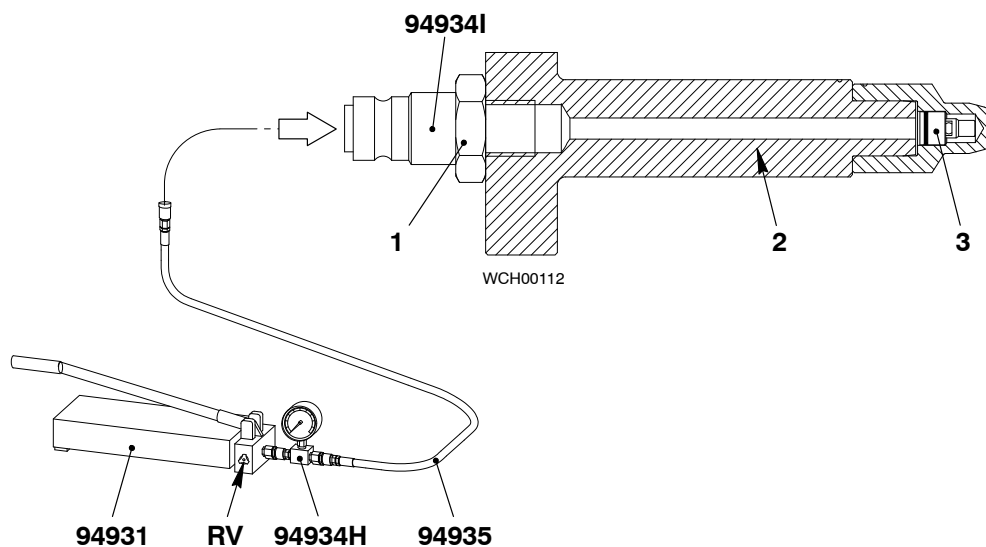

Fig. 3
**Note:** During the function check, keep the lubricating quill (2, Fig. 3) in a horizontal position.